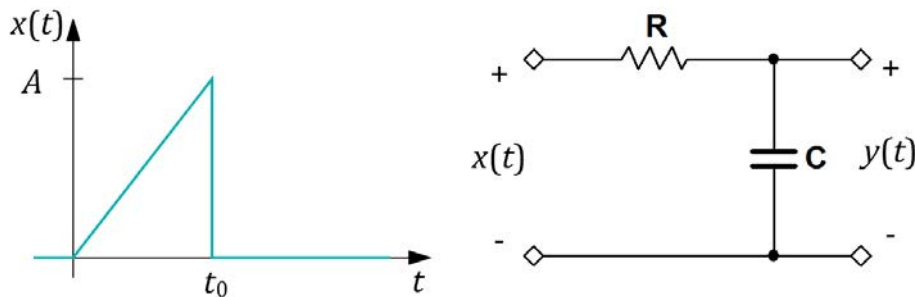

Figure 10.4: Circuit and input voltage waveform for Problem 10.4
Figure 10.4 shows a passive lowpass filter circuit and its input voltage waveform $x(t)$.
1. Enter the circuit of Figure 10.4 using the same component values listed in the problem statement. Drive the circuit input with an `ABM_VOLTAGE` source configured to produce the waveform $x(t)$ with $A = 5 \text{ volts}$ and $t_0 = 50 \text{ ms}$. Alternatively, use a `PIECEWISE_LINEAR_VOLTAGE` source.
1. Build the circuit of Figure 10.4 on the previous page using the same component values listed in the problem statement. Drive the circuit input with AOO and use the ELVISmx Arbitrary Waveform Generator to produce the waveform shown in the same figure with $A = 5$ volts, and $t_0 = 50$ ms. Set the period of the waveform to 100 ms.